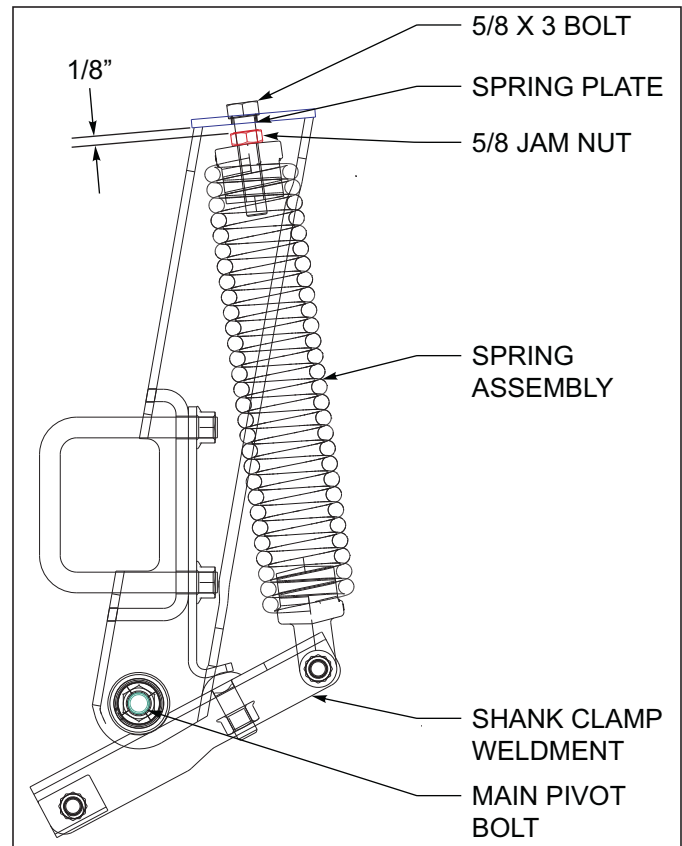
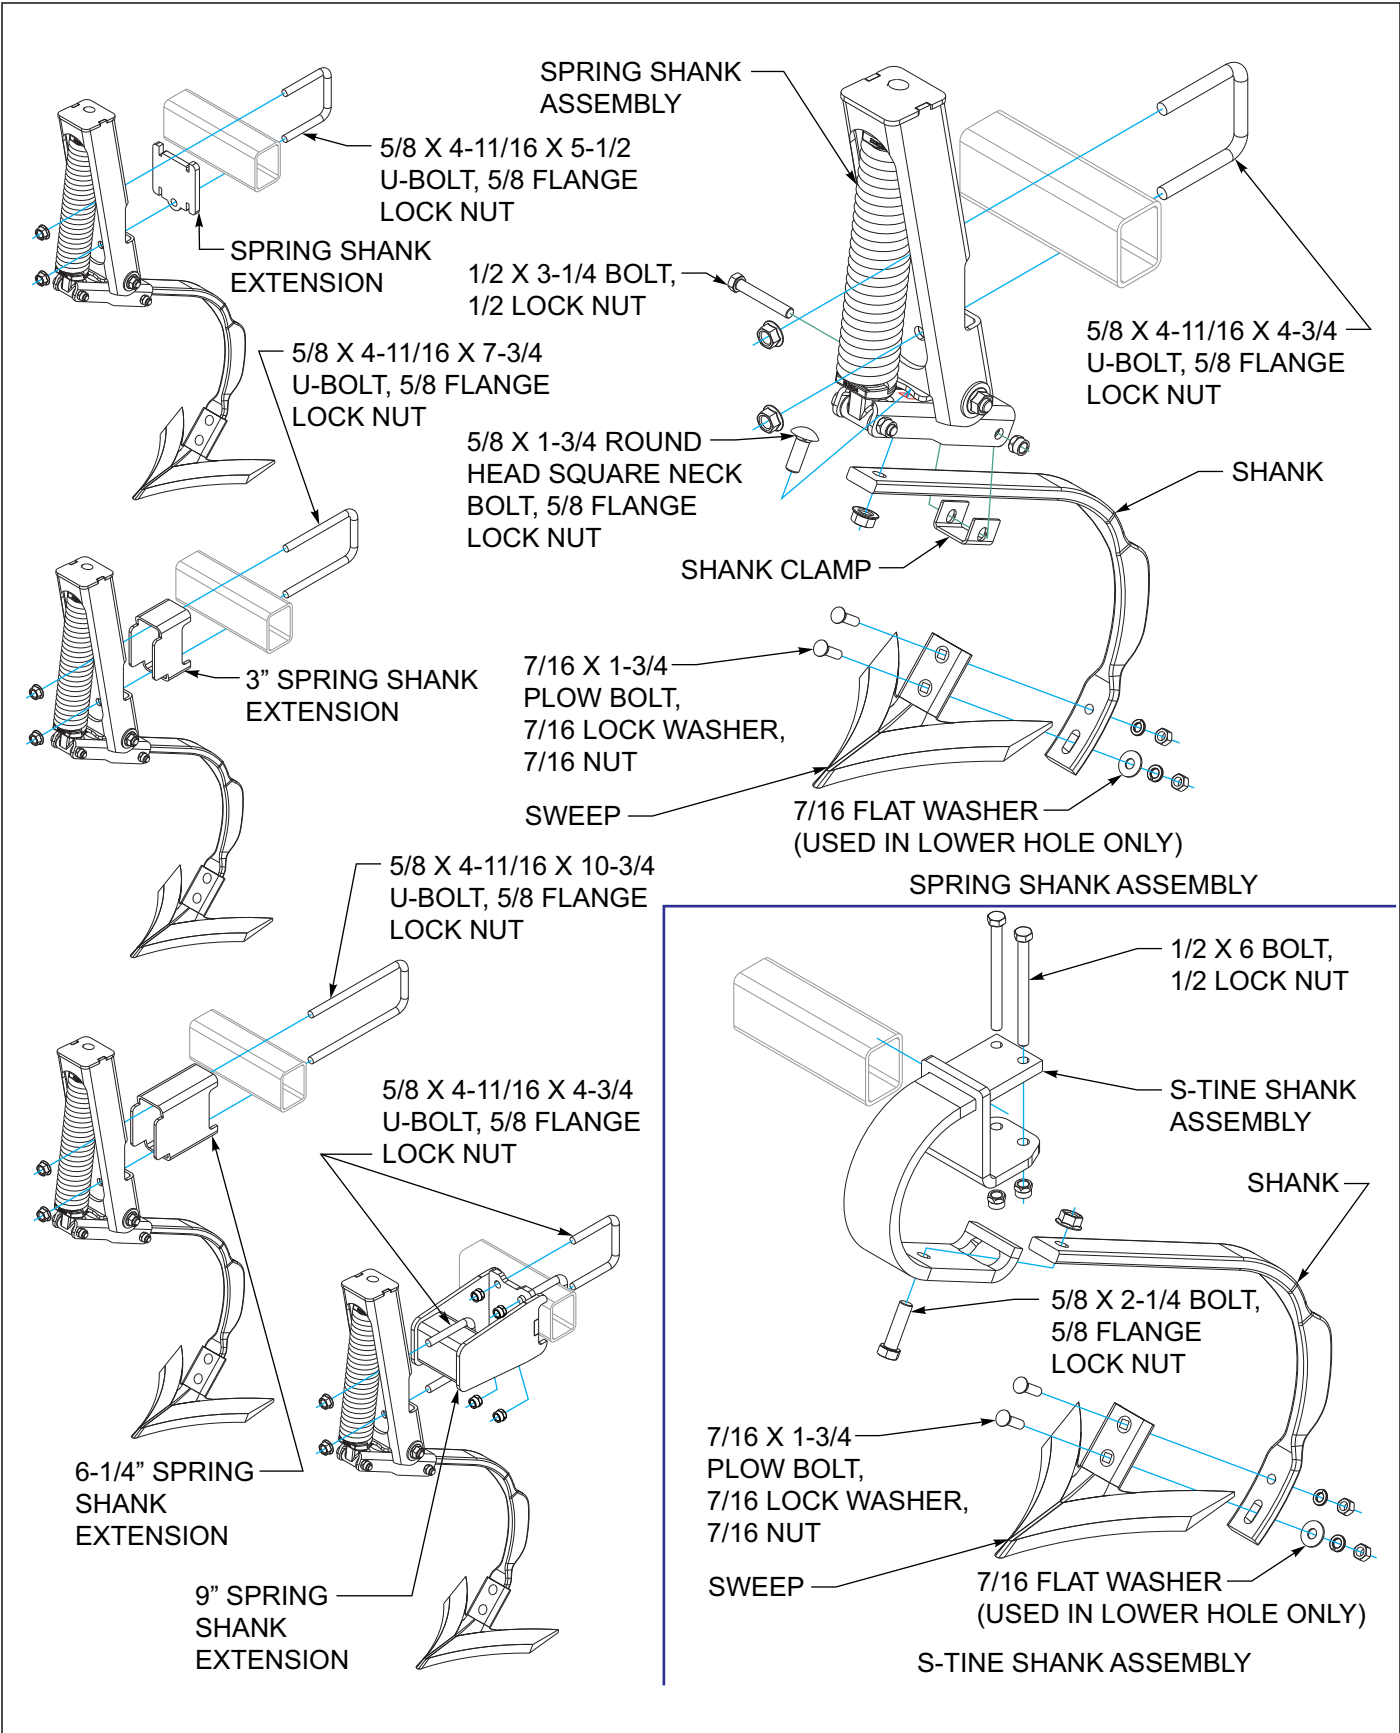

Figure 3-26: Spring Adjustment
Figure 3-27: Shank Installation
1. Install shanks in clamps See Figure 3-27.
Spring shank assemblies with frame extensions (front bar) are mounted reversed for narrower shipment. These shanks must be removed and turned forward for proper operation. See Figure 2-2 through 2-6 for proper placement, and See Figure 3-27 for proper u-bolt and shank extension. After shanks have been reversed, verify that springs have been set to the proper tension. Adjust the spring until there is 1/8" gap between the top of the mount and locking jam nut on top of the spring See Figure 3-26 Lock the jam nut against the top of the spring, not the top of the mount.